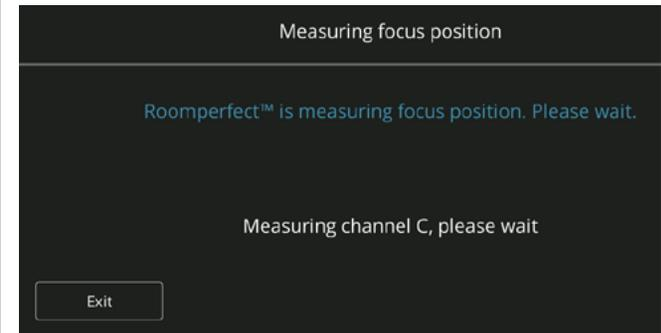

Figure 21
5. Follow the On-Screen instructions and reposition the microphone to the necessary measurement locations. Refer to figures 21, 22 and 23.